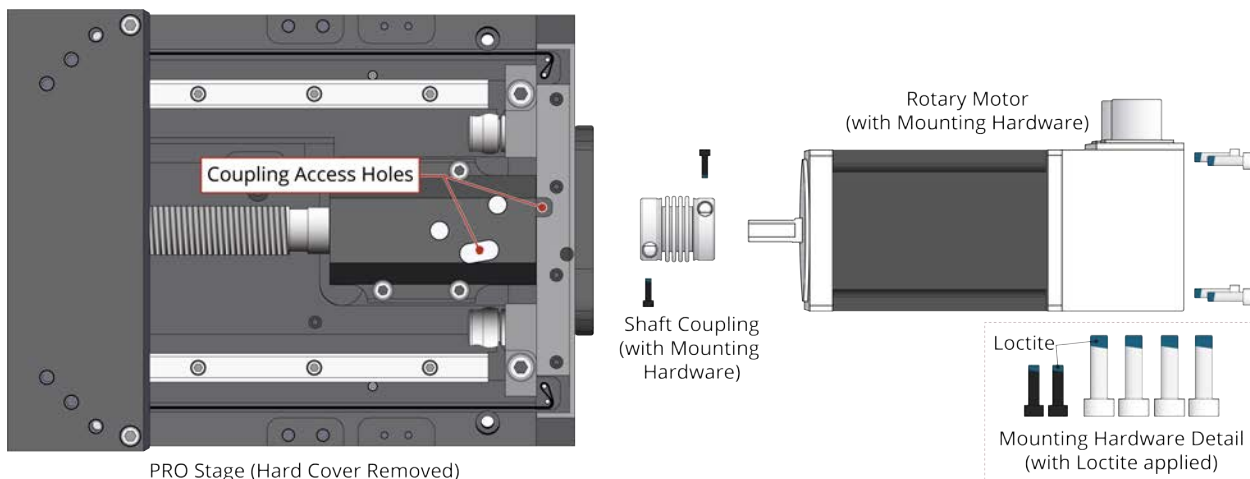

Figure 4-4: Motor Mounting Overview
IMPORTANT: Use Loctite 242 or Loctite 248 on the motor and coupling adapter hardware (Figure 4-4). Loctite products are printed with an expiration date. Before use, be sure that the expiration date is legible and the product has not expired.
2. Locate the Shaft Coupling access holes (refer to Figure 4-4).